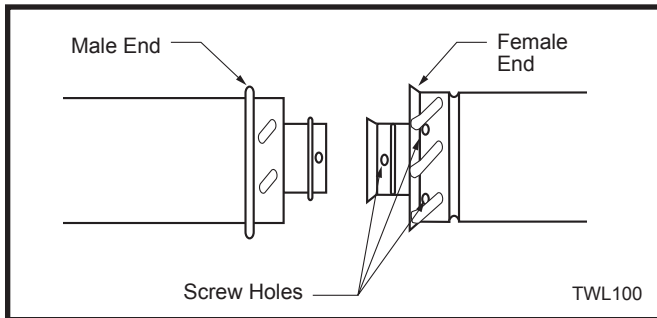

Fig. 17 Twist-Lock pipe joints.
To join twist lock pipes together, simply align the beads of the male end with the grooves of the female end, twisting the pipe until the flange on the female end contacts external flange on the male end. It is recommended that you secure the joints with three (3) sheet metal screws, however, this is not mandatory with twist lock pipe. (Fig. 17)
1. Determine the height of the center of the horizontal vent pipe exiting through the outer wall. Using this dimension on the Sidewall Vent Graph (Fig. 17), locate the point intersecting with the slanted graph line.